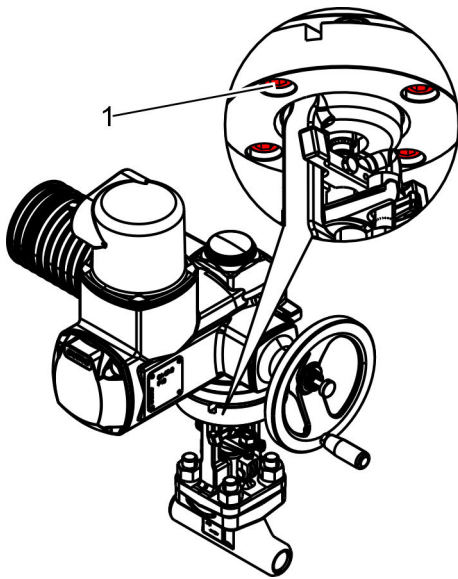

Fig. 22: Removing the bolts
2. ➤ Undo the bolts (Fig. 22/1) for the electric actuator and remove them along with the washers.